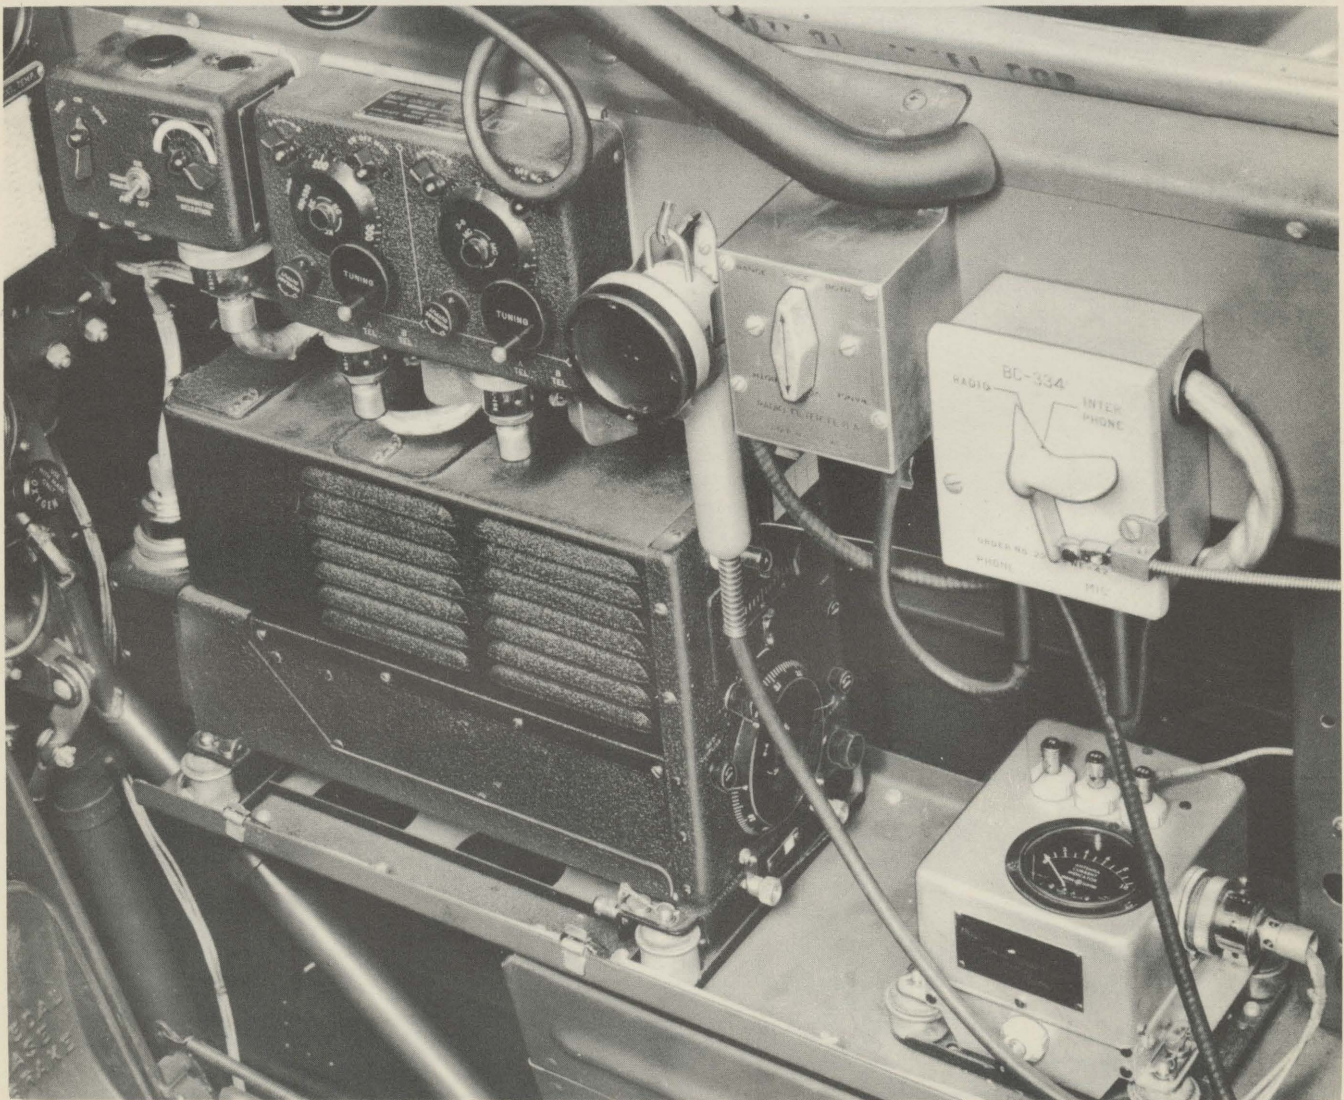

FIG. 6—RADIO CONTROLS—RIGHT SIDE OF FRONT COCKPIT
(1) RECEIVER EQUIPMENT (See figures 6 and 7.)—The two receivers BC-453-A and BC-454-A are located on a shelf just below the rear cockpit instrument panel. A dynamotor for supplying plate voltage for the command receivers is mounted on the rear